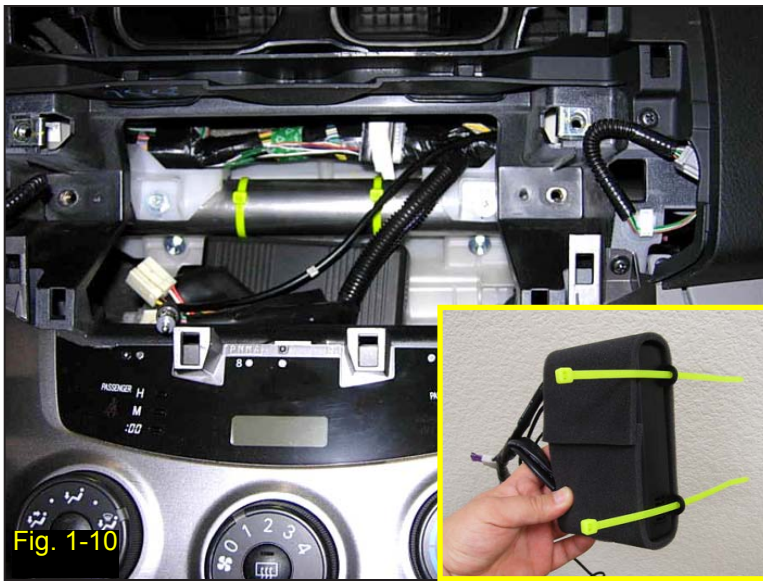

Fig. 1-10
1. Insert two (2) wire ties through the module (Fig 1-10).
NOTE: BLU Logic wire ties in Figure 1-10 and the remainder of these instructions will be shown in yellow.